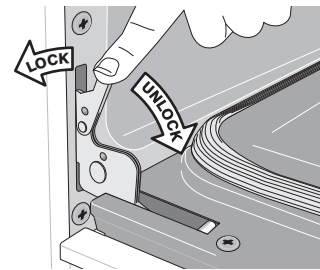

Figure 43: Door hinge locks
1. Open oven door completely, horizontal with floor (See Figure 43).
3. Fully open the oven door, horizontal with floor (See Figure 43).